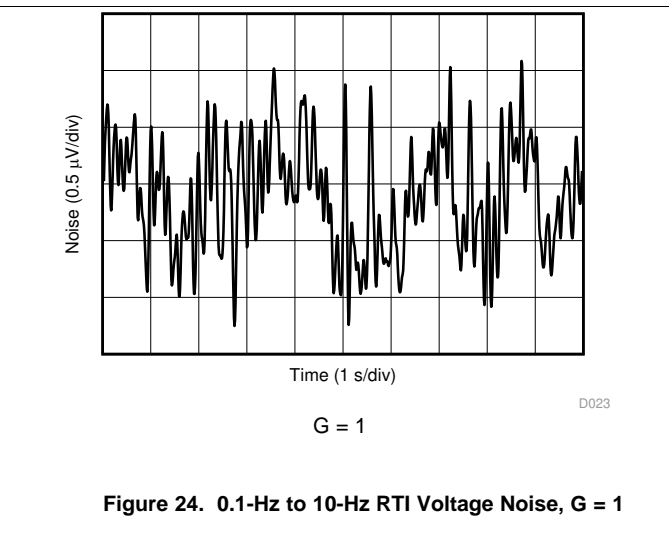

Figure 24. 0.1-Hz to 10-Hz RTI Voltage Noise, G = 1
0.1-Hz to 10-Hz RTI Voltage Noise, $G = 1$	Figure 24